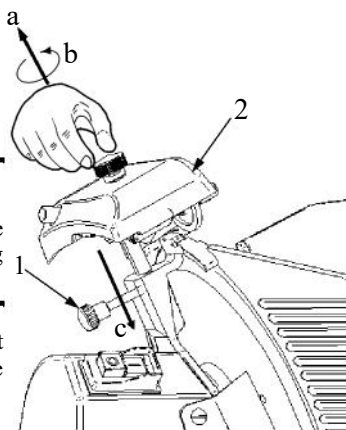
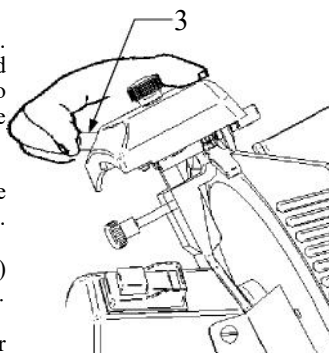

FIG. no. 9a
FIG. no. 9b
3. Unscrew the knob (1) until the sharpener (2) loosens. Lift (a) the sharpener (2) up to the locking position and rotate it 180° (b) (see FIG. no. 9a). Then let it move to the end (c) so that the blade is positioned between the two grinding stones. Lock the knob;
4. Switch-on the slicer by pushing the button "I" (ON);
5. Push the small button (3) (see FIG. no. 9b), let the blade rotate against the grinding stone for 30 to 40 sec. to produce burr on the blade edge;